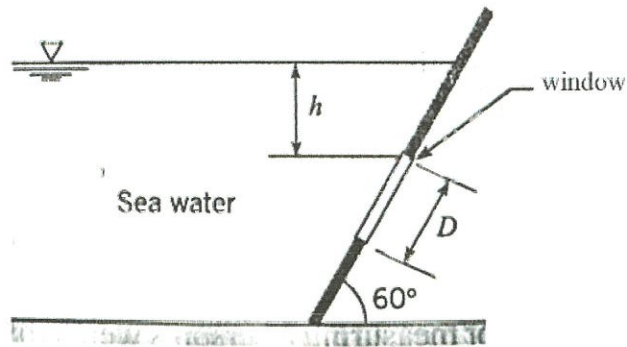

Figure Q4 (c)
- (c) A round viewing window of diameter, $d = 0.8$ m is situated in a large tank of seawater (specific gravity, $SG=1.03$). The top of the window is 1.2 m below the water surface, and the window is gaged at 60° with respect to horizontal as shown in **Figure Q4 (c)**.